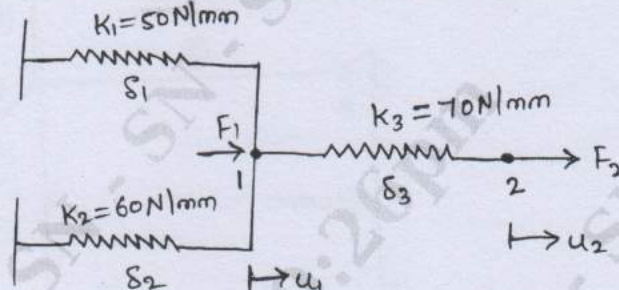

Fig Q2(b)
- b. For the spring system shown in Fig Q2(b) using principle of minimum potential energy, determine the nodal displacements Take  $F_1 = 75\text{N}$  and  $F_2 = 100\text{N}$